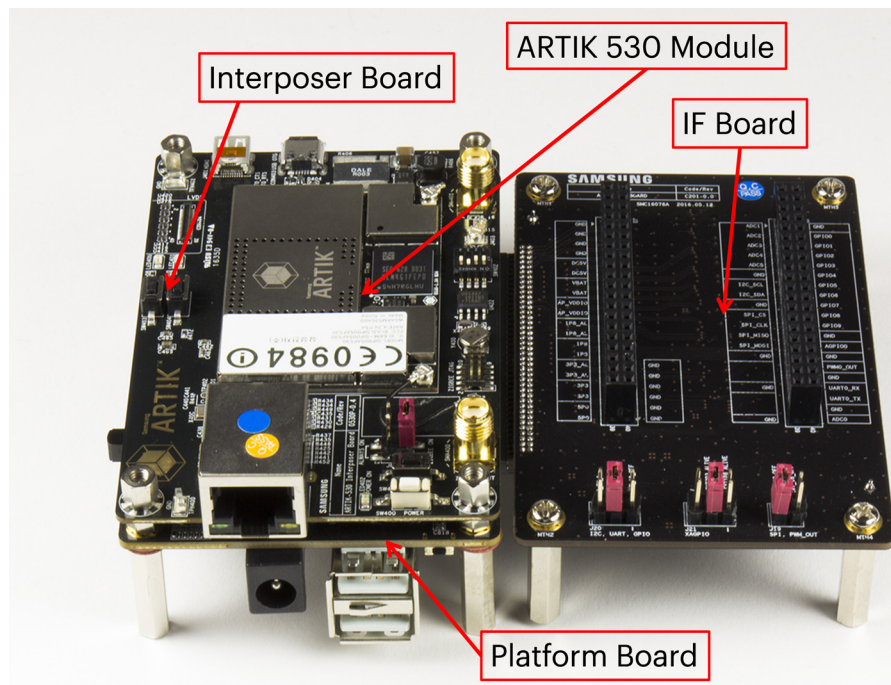

Figure 1. ARTIK 530s Development Kit Contents
*Figure 1* shows the three boards that make up the ARTIK 530s Development Kit.